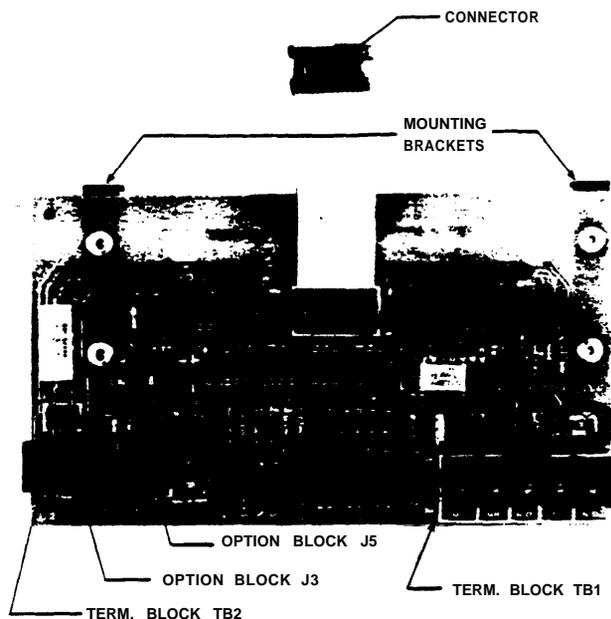

Fig. 3—Universal Interface Card (UIC)
3.04 The basic PagePac® VS unit may be accessed from a key system dial intercom which provides full zone selection. It may also be accessed via a manual intercom card or directly from single-line instruments or from a spare pickup key on key telephone sets. However, in the latter case, a separate set of 4 non-locking signaling keys must be used to effect zone selection. In lieu of the non-locking signaling keys, the optional UIC card (Fig. 3) can be provided in tone-dial systems. Also, access from a PABX station circuit requires the UIC card and access from a PABX trunk outlet requires the UIC card if zone selection is desired.